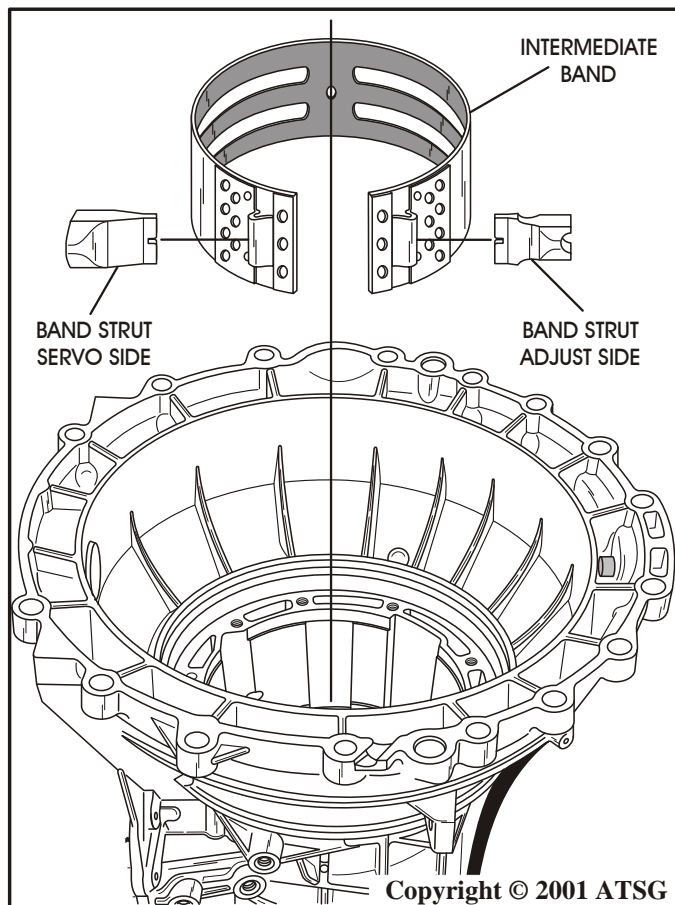

Figure 45
46. Remove the intermediate band assembly and both band struts, as shown in Figure 45.
Note: Notice the difference in the band struts and which side they are located, as shown in Figure 45.